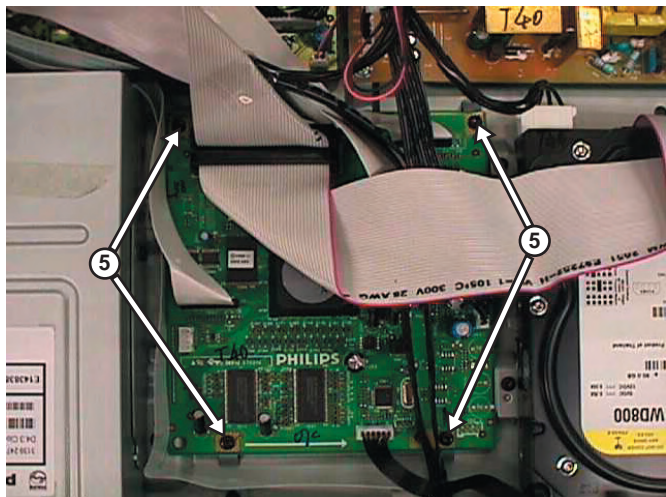

Figure 4-8
- 1) Remove the 4 screws to loose the Digital Board as shown in Figure 4-8.